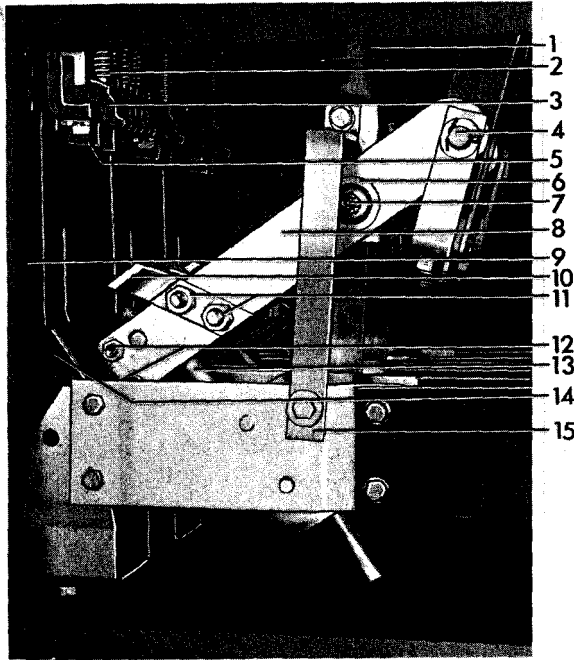

Figure 23. (8039588) Contact Assembly
1. Disconnect the contact braids (7) from the contact fingers by removing two bolts and locking plates (8).
3. To disassemble braids from stud plate remove one bolt (5).
4. To disassemble stud plate from contact support, remove two bolts (6).
5. Reassemble in the reverse order, make sure locking plates are properly re-assembled with bolts (8).
B. Movable Arcing Contact (14) Figure 23.
1. Remove the assembly bolts (12) making note of quantity and location of shims and spacers used between contacts and contact arms.
3. Close the breaker slowly to check that the movable arcing contact is approximately centered on the stationary arcing contact and that it does not rub on either side of the throat barrier (9).
D. Movable Primary Contacts (10) Figure 23.
2. Pry contact arms (8) apart enough to disengage pivot pins of piston assembly (13) allowing piston to drop down into its booster cylinder.
3. Rotate the two parts of the contact arm assembly away from each other so assembly bolts (11) are accessible and movable primary contacts (10) can be removed.
- E. Contact Arm Assembly (8, 10, 12, 14, Figure 23).
1. Remove connection bar (15).
2. Disassemble hinge pin (7), cup bearing (6), and operating rod pin (4) noting quantity and location of any washers and spacers used in assemblies.
3. The contact arm assembly including the piston assembly (13) can now be removed.
4. When reassembling, first insert piston tube assembly (13) into the booster cylinder and reassemble the cup bearing, making sure the silvered contact washers between the bushing and contact arms (both sides) are in place.
5. Reassemble operating rod pin (4) and connection bar (15).
3. Remove the connection bar (15) Figure 23, cup bearing (6) and hinge pin (7).
5. When reassembling, first mount the bushing and assemble the cup bearing (6), contact arm (8), and replace pin (7) being sure the silvered contact washers between the bushing and contact arms are in place. The contact surfaces at the hinge point of the contact blade and bushing should have a thin coating of D50H47 grease.